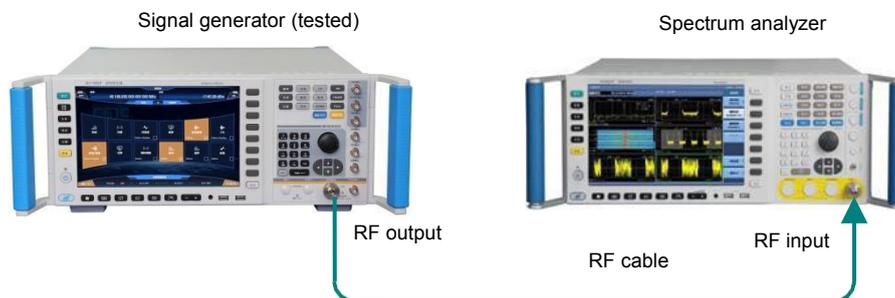

Fig.7.4 Harmonic Test
**Step 2. Connect the device as shown in Fig.7.4.**
The test block diagram is the same as Fig.7.4.